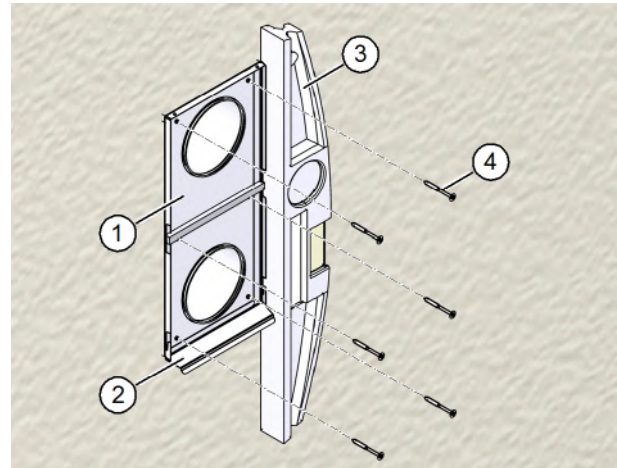

Fig. 10: Fixing the base plate
- ▶ Carefully position the base plate (item 1 in Fig. 10) correctly on the ventilation pipes. Be careful not to damage the seals.
Make sure that the drip edge (item 2 in Fig. 10) is pointing downwards.
- ▶ Use a spirit level to align the base plate vertically (see item 3 in Fig. 10).
- ▶ Use the six screws provided to fix the base plate (item 4 in Fig. 10).